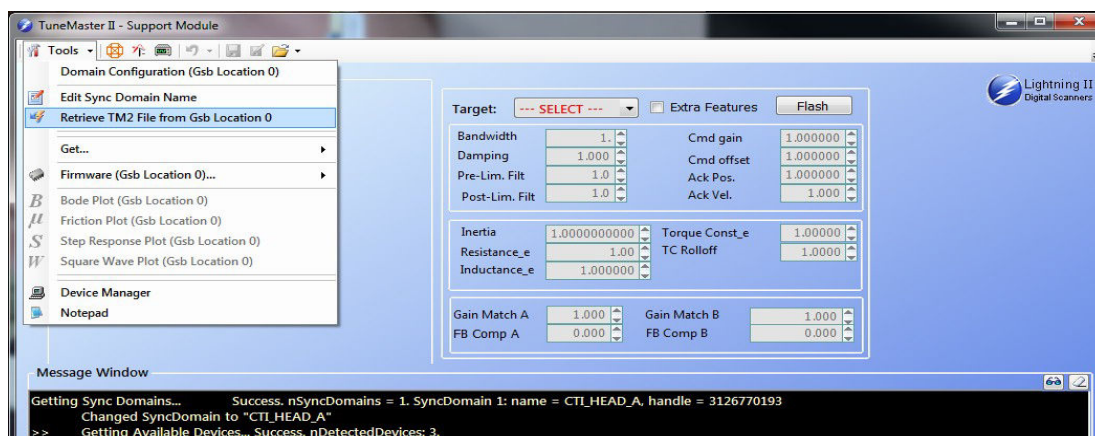

Figure 2 - Retrieve TM2 File from Gsb Location 0
1. If 'Gsb Location 0' (x-axis) is chosen n (highlighted), click the 'Tools' menu. In the dropdown list, select 'Retrieve TM2 files from Gsb Location 0' (See Figure 2).